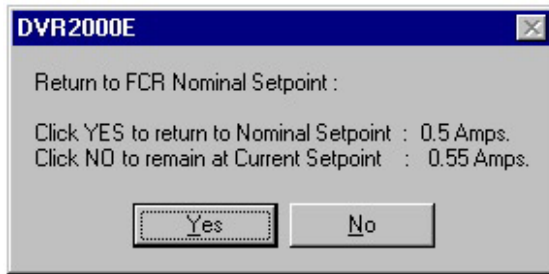

Figure 5-16. Message Box to Return to FCR Nominal Setpoint
The setpoint value currently set in the unit by any of the above methods is displayed in the current setpoint textbox. To return to the nominal setting the button adjacent to FCR Setpoint (I) (Nominal) should be pressed. If the FCR analysis screen is left without returning to nominal setpoint a message box is shown (Figure 5-16) which allows the user to return to nominal setpoint by pressing YES or remain at the current setpoint by pressing NO.